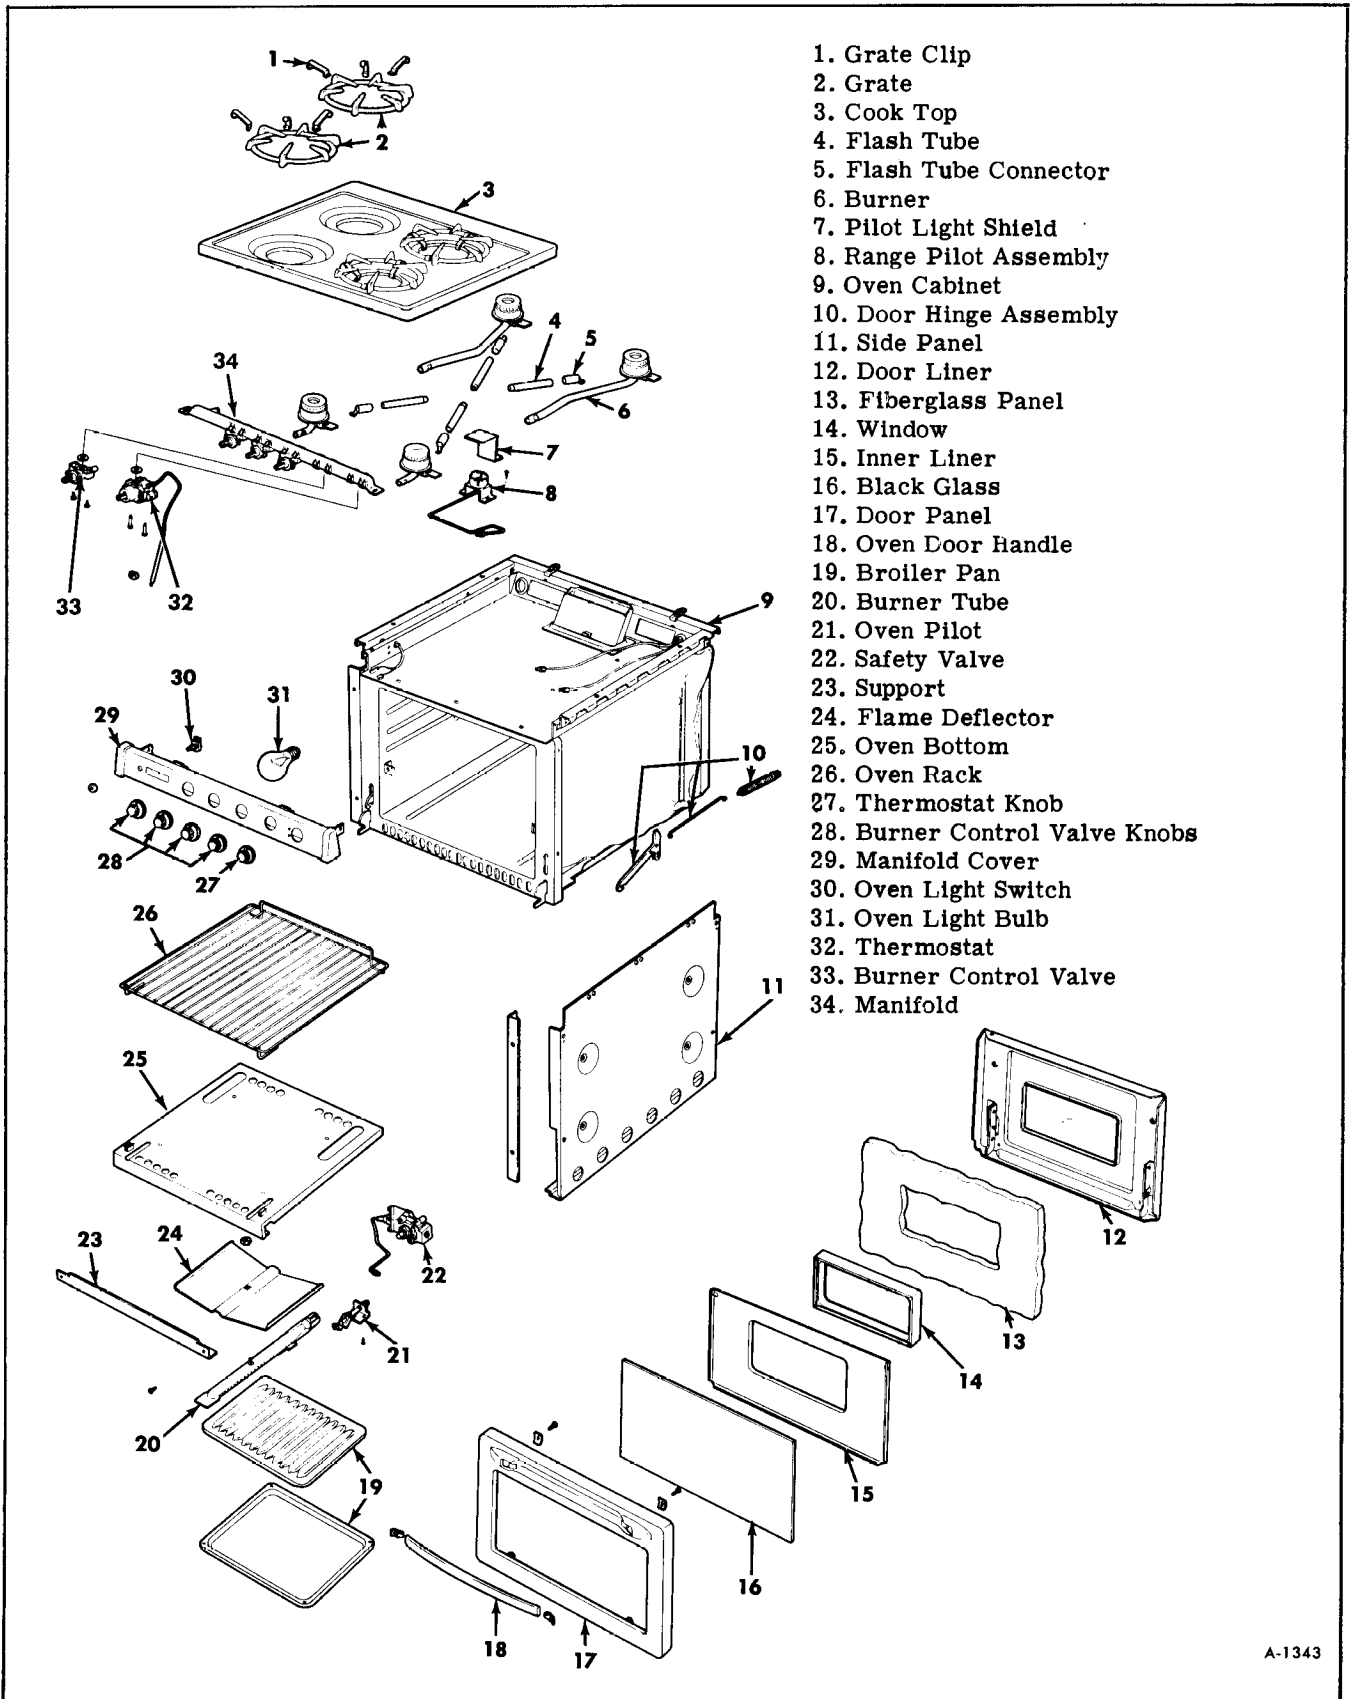

Figure 3—Four Burner Range/Oven Components
**NOTE:** To gain space when working in and/or on range/oven (figures 3 or 4) it is often desirable to remove the oven door.